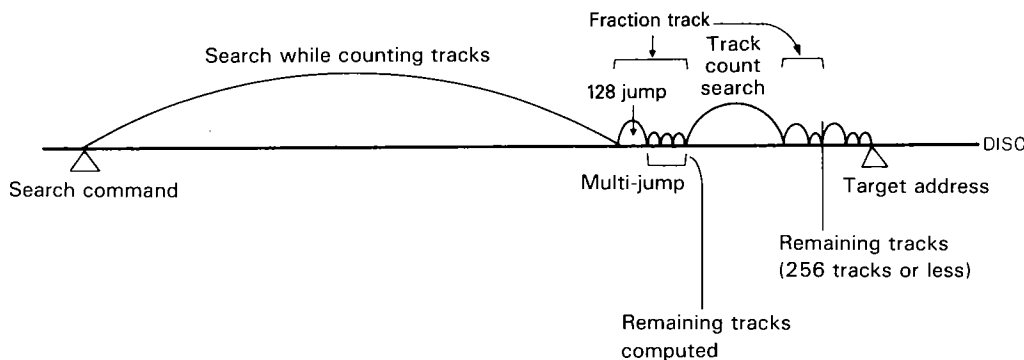

Fig. 46 Cross count search (When the target address is known)
- **Cross count search (Fig. 46)**